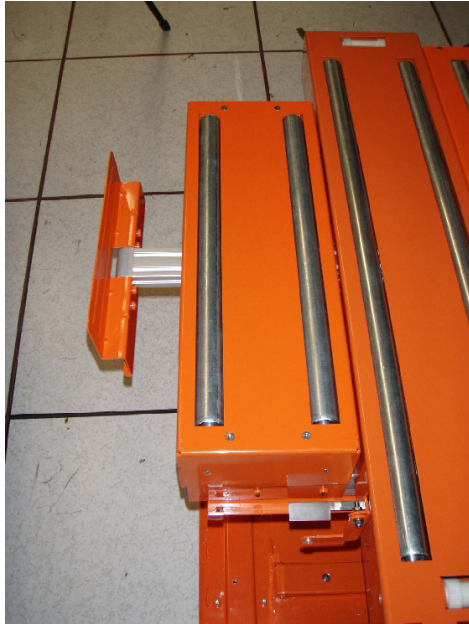

Figure 32: Front Table Stop
STEP 32 Extend and flip up the lift tool Front Table Stop (see Figure 32).